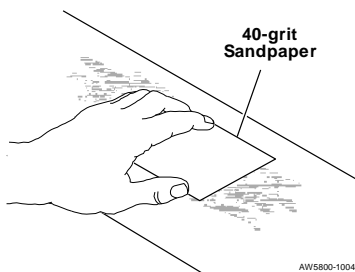

Figure 3. Sanding Trunnion Tube
- C. Using 40-grit medium sandpaper, sand the marked off area until it is free of paint and other residues. See Figure 3.